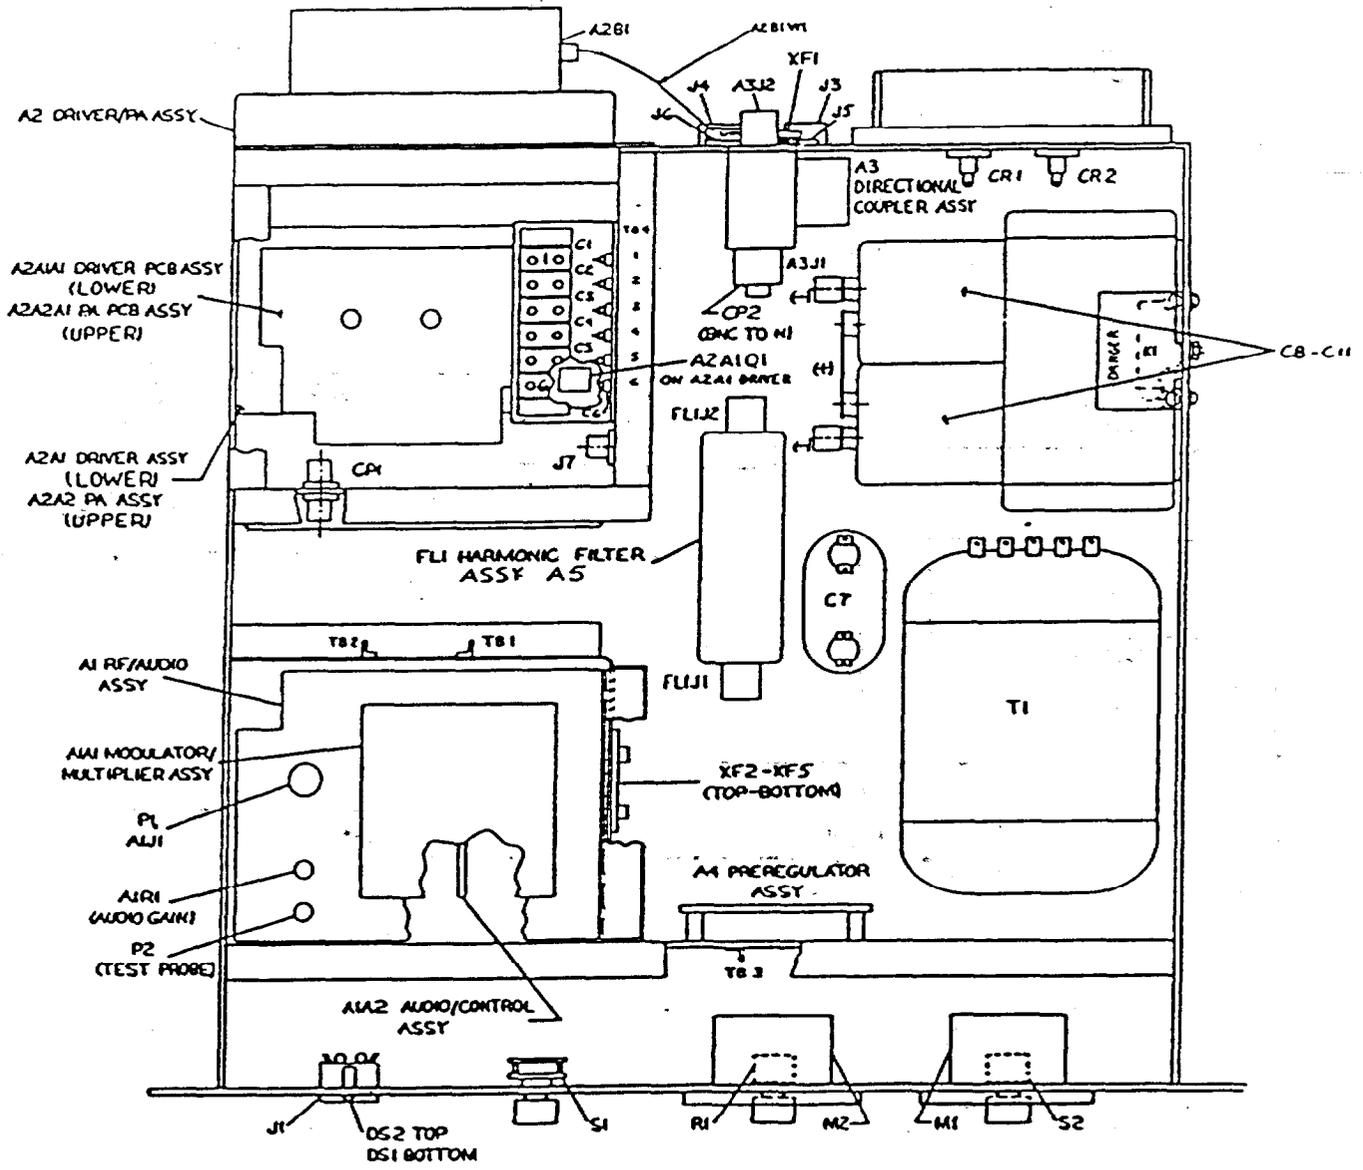

FIGURE 1
3. Locate the Directional Coupler Assembly (A3) mounted on the rear panel (reference Figure 1 of this mod. note).
10. Verify that relay K1 is installed in the Exciter (reference Figure 1).
NOTE: This relay was included as part of Modification Note 23 to convert the B220 to VOX keying in place of the old 2400 Hz keying. All sites were sent materials to perform this modification. This relay is mounted to the right sidewall of the chassis (see Figure 1 of this mod note) directly under the "DANGER" shield.
- b. Remove the four screws holding the Modulator/Multiplier Assembly A1A1 (Reference Figure 1) and turn the Modulator/Multiplier tray upside down. The A1A audio/control assembly is now visible.
- e. Set R5 on the directional coupler assembly (A3) PCB to midrange (reference Figure 1).
- A. Figures 1 through 5, B220 Upgraded Transmitter**